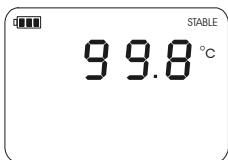

Figure 11: Unit goes to measurement mode
4. When the **cal** and **hold** keys are released, the unit will go to measurement mode (Figure 11).